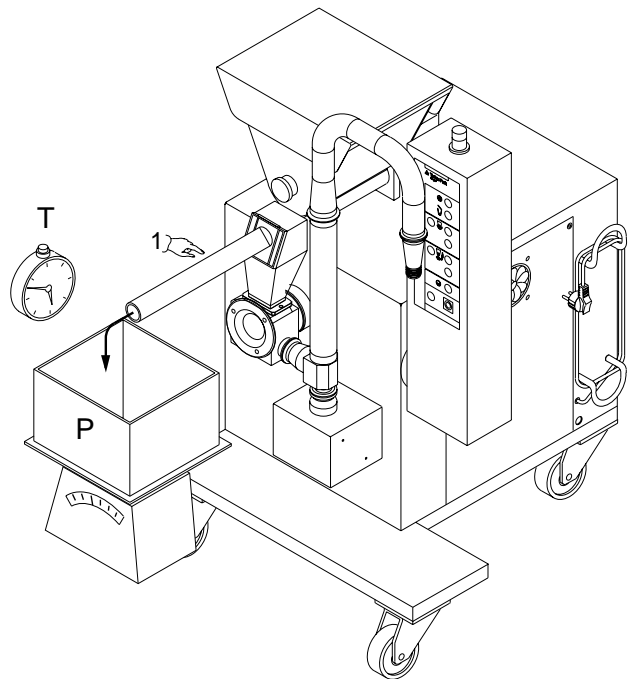

Fig. 5.2
1. Connect the screw feeder outlet pipe to the rubber hose supplied, leaving the secondary hopper lid open (*Part.1 Fig.5.2*). Place a container of suitable dimensions under the extension outlet to collect the ingredients.